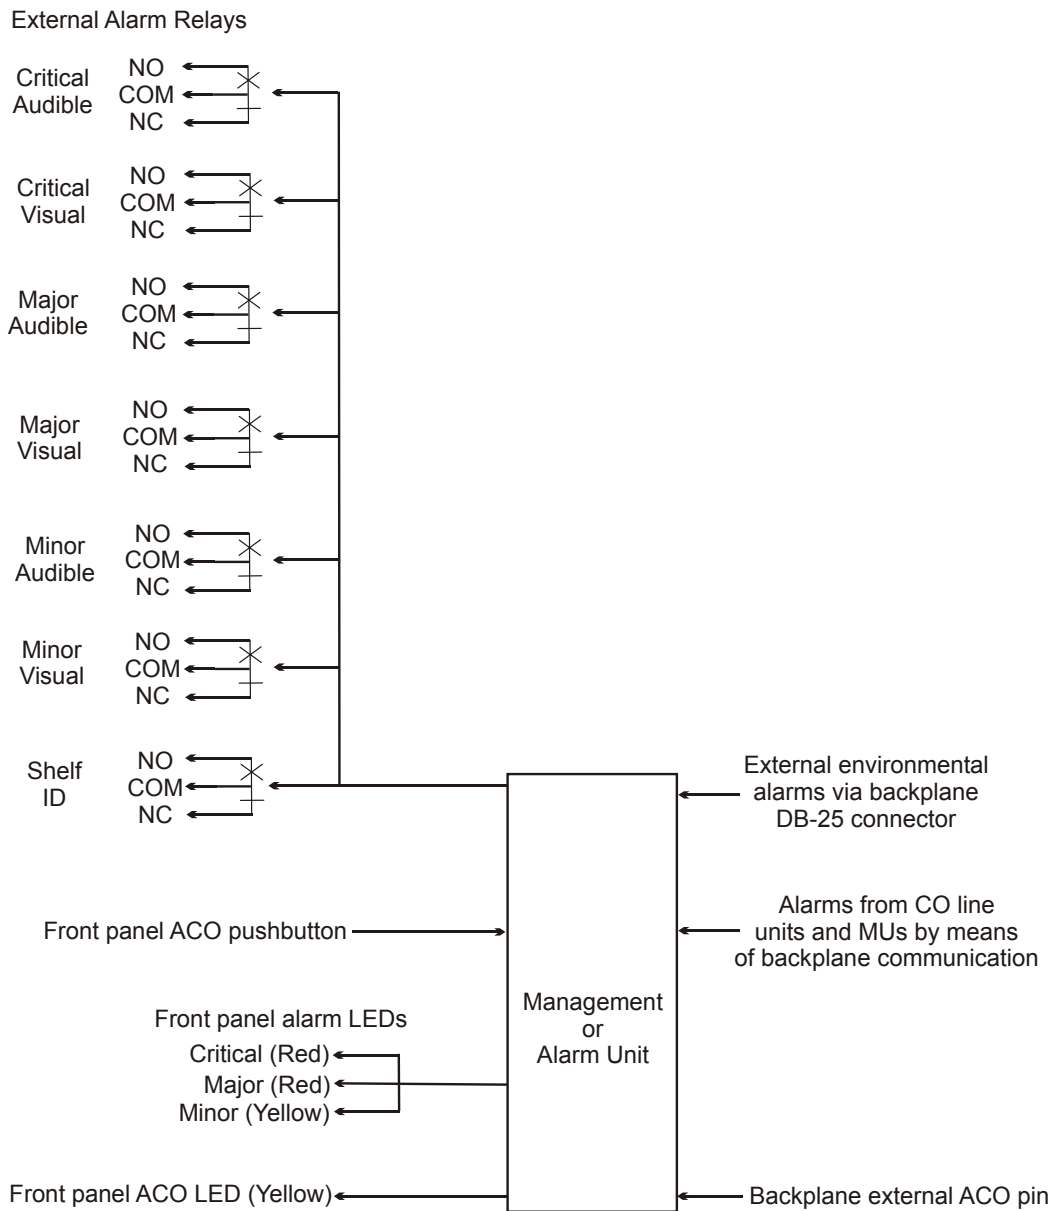

Figure 12. Alarm Relay Contacts and Alarm Block Diagram
The shelf provides access to the management/alarm unit alarm relays by way of wire-wrap pins on the backplane. Normally open (NO) and normally closed (NC) relay operation is supported. Figure 12 shows the configuration of the alarm relays.